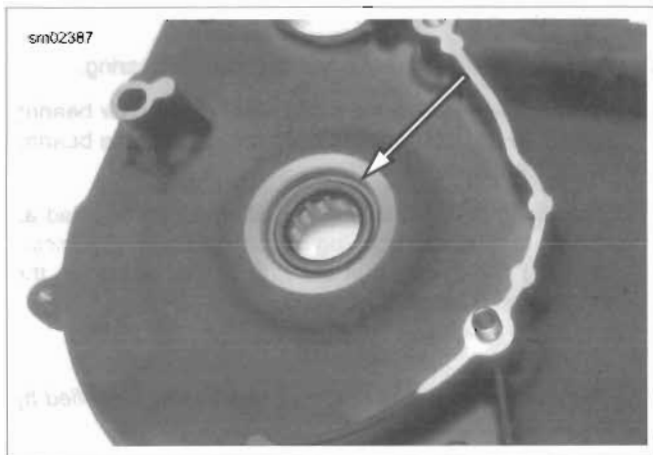

Figure 5-21. Oil Seal
- b. See Figure 5-21. Press the seal into bore until outer edge of seal is flush with machined surface of inner primary housing.